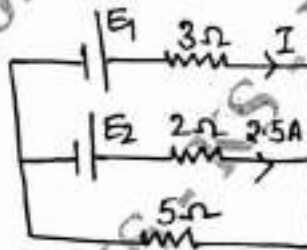

Fig.Q1(b)
- b. Find  $E_1$ ,  $E_2$  and  $I$  when the power dissipated in the  $5\Omega$  resistor is 125W. (Ref. Fig.Q1(b)). (07 Marks)